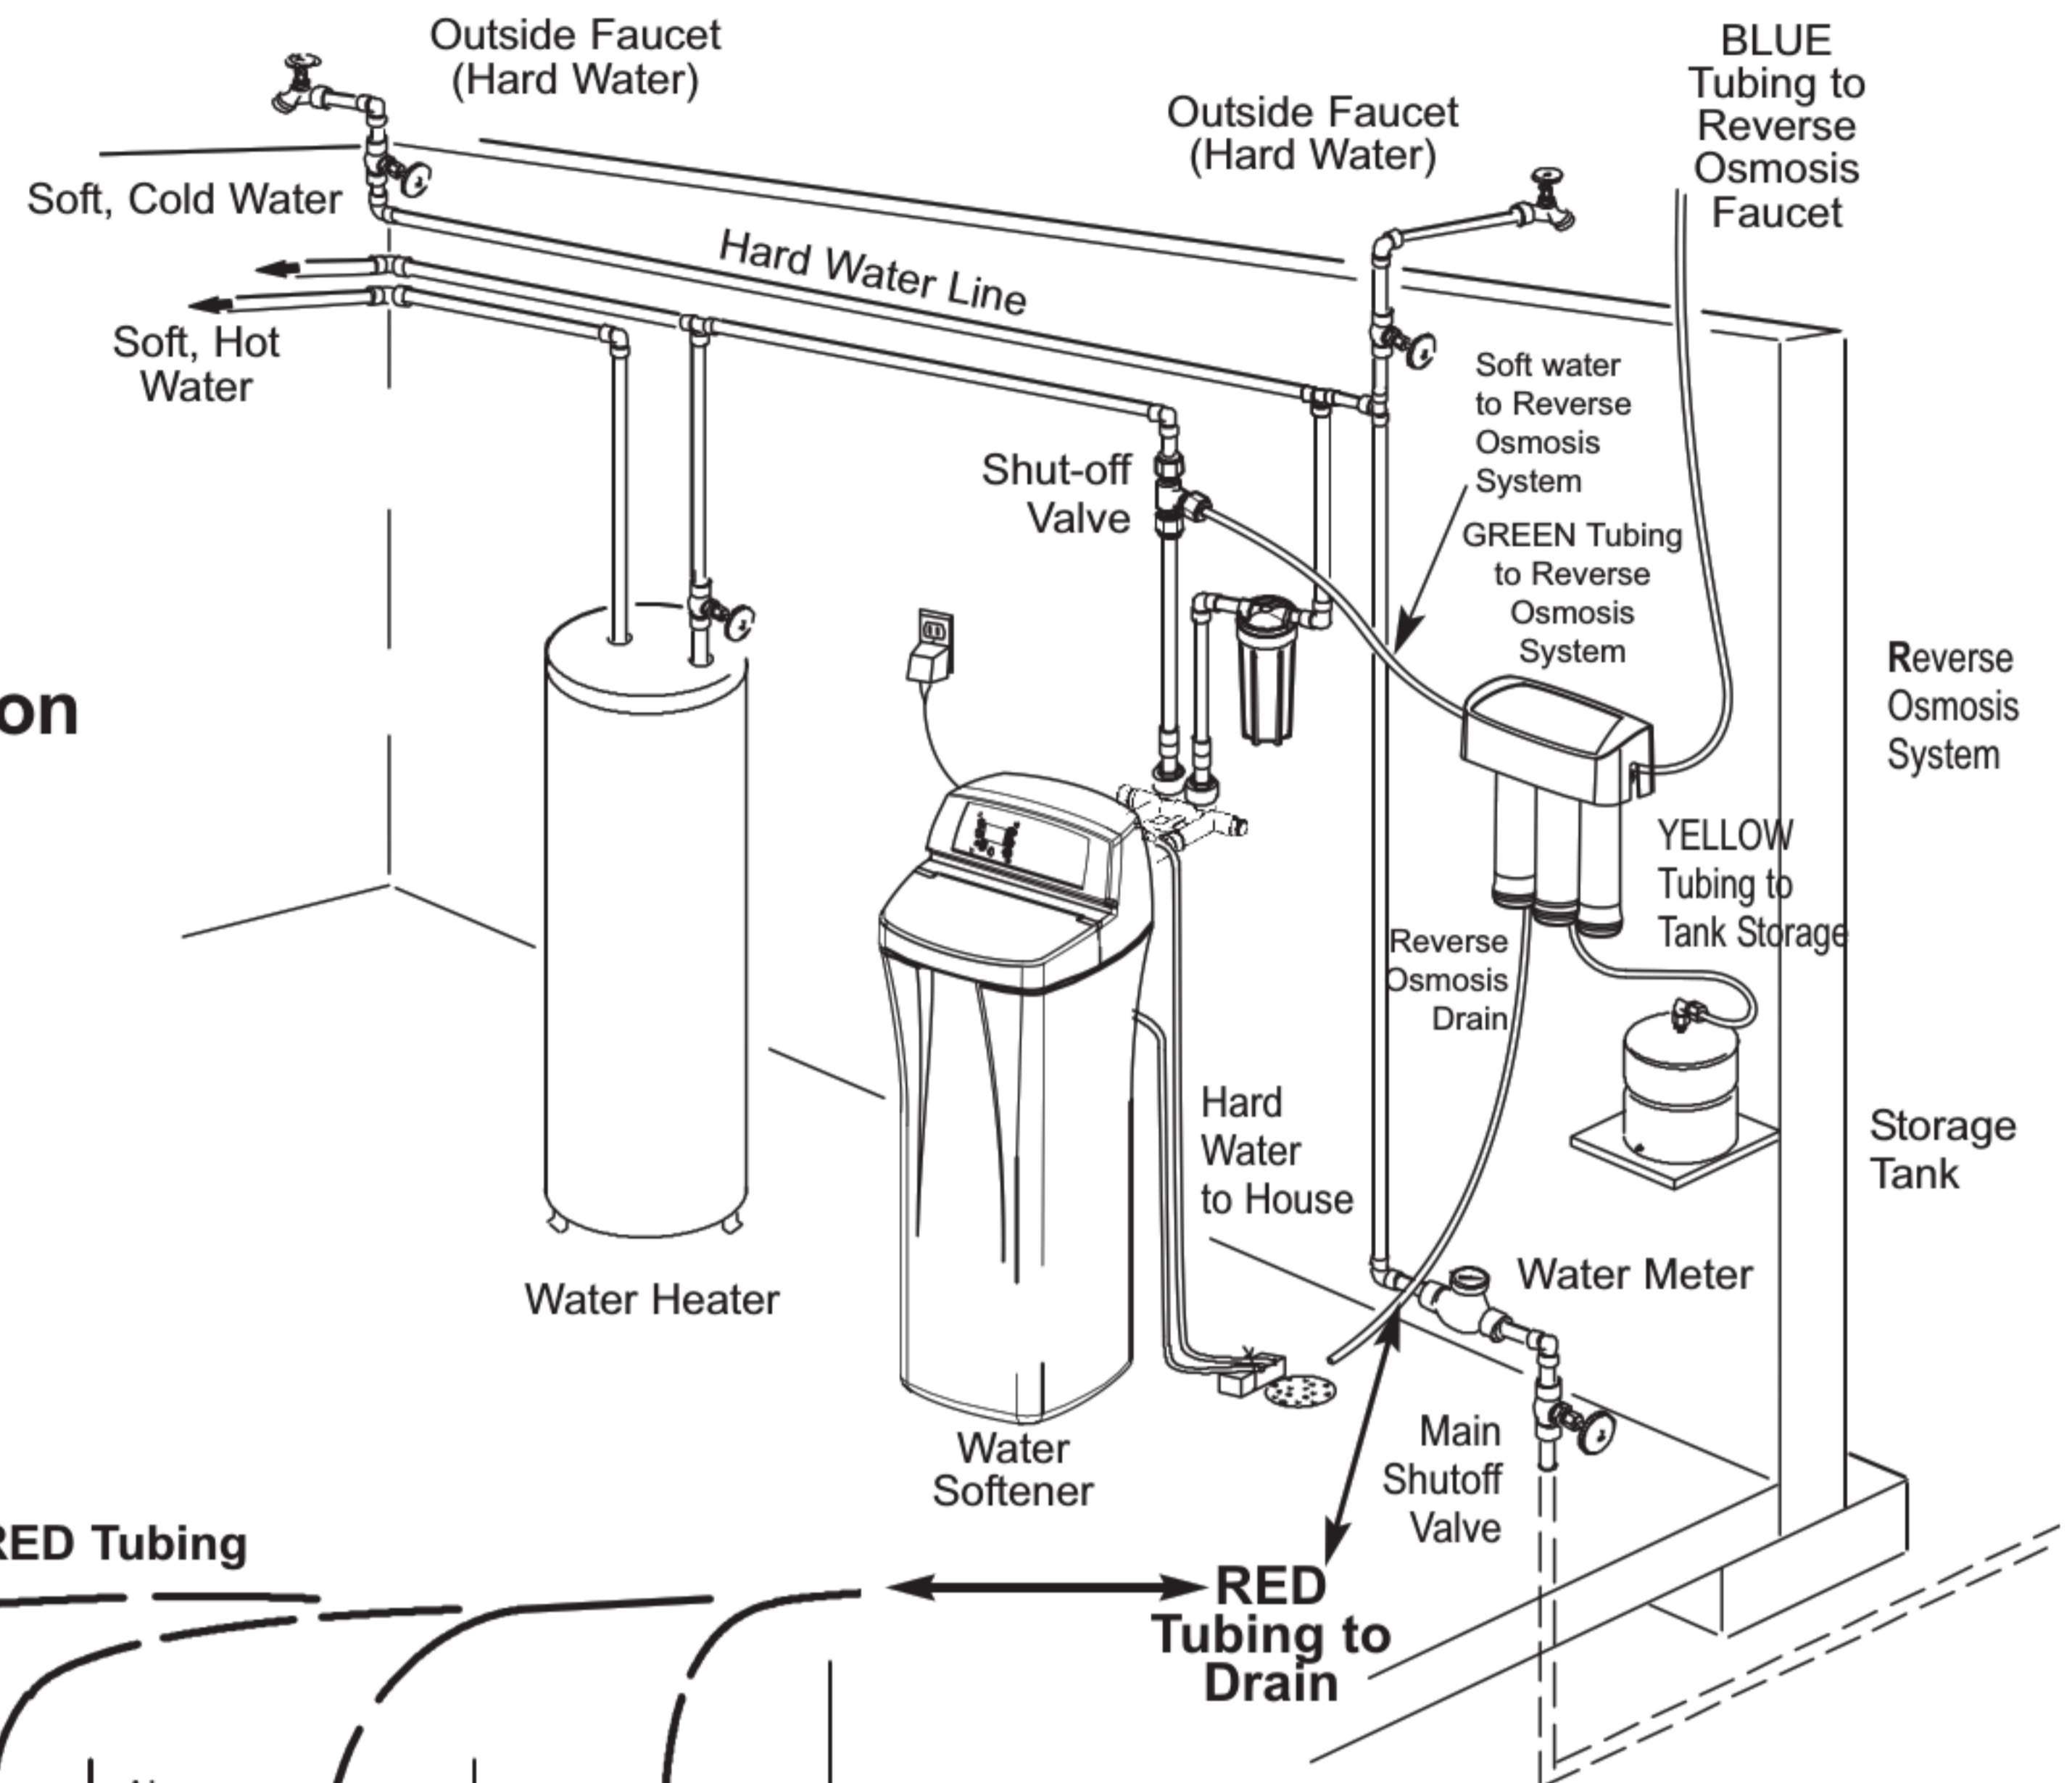
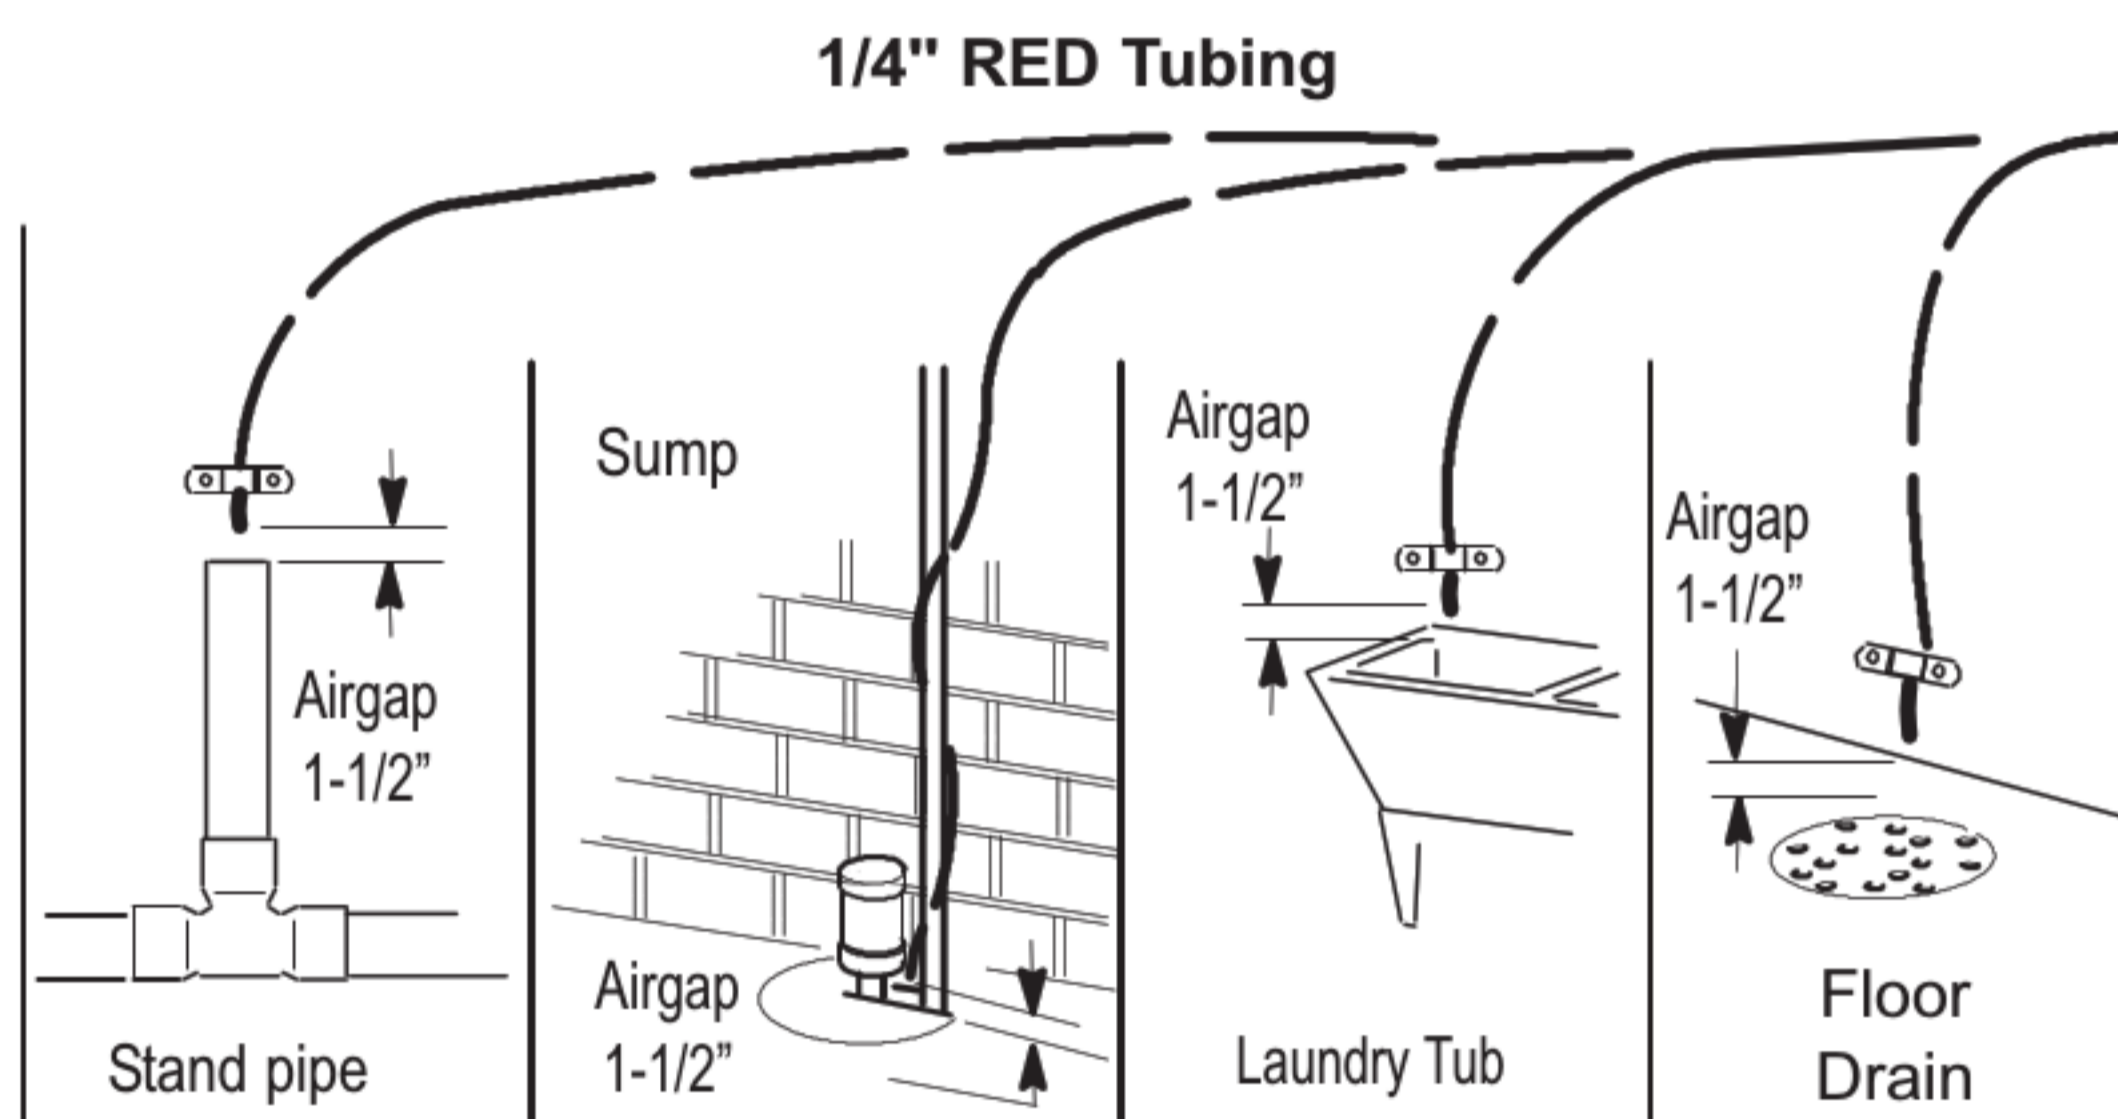

FIG. 9
FIG. 10
(See Fig 9, Fig. 10) This is usually used in remote location type installations. The drain tube from the Reverse Osmosis Filter runs directly to an open drain. See Fig. 9 & 10.
You can also run the drain tubing to an existing drain in the house. A floor drain, laundry tub, standpipe, sump, etc. are suitable drain points. See Fig. 10. This type of drain is preferred over the p-trap drain adapter. Check your local codes. Longer lengths of tubing (see parts list in back of manual) may be needed.
1. Locate the 1/4" red tubing on the Reverse Osmosis filter assembly. See Fig. 9.
4. Run the tubing to the drain point and secure at the end with a bracket (purchased locally). See Fig. 10. Provide a 1-1/2" air gap between the end of the tube and the drain. See Fig. 10.